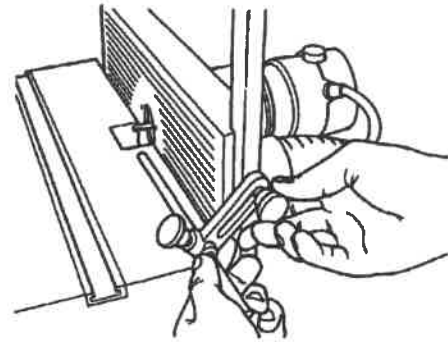

Fig. C-11
16. Install the Shopsmith Stop Rod on the right guide rail (6). See Fig. C-11.